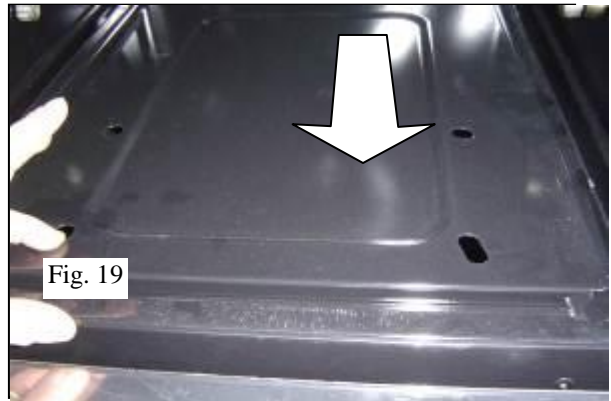

Fig. 19
**CAUTION:** when refitting place the base underneath the groove on the fascia (fig.19).